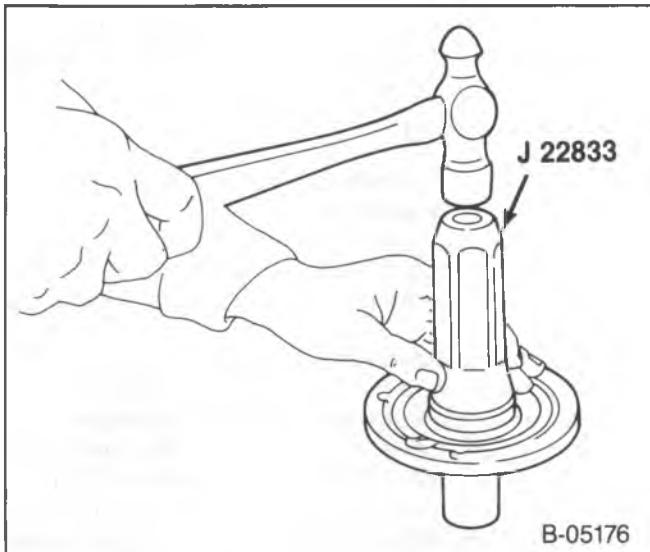

Figure 29—Installing the Drive Gear Bearing Retainer Oil Seal
- Seal (266), using J 22833. The lip of the seal goes toward the installing tool, (figure 29).